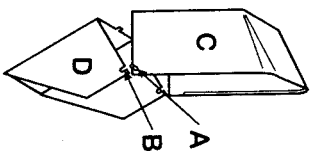

Figure 1 - Hook face shield halves together
- ◆ Position pins "A" into the corresponding slots "B". See Figure 1.